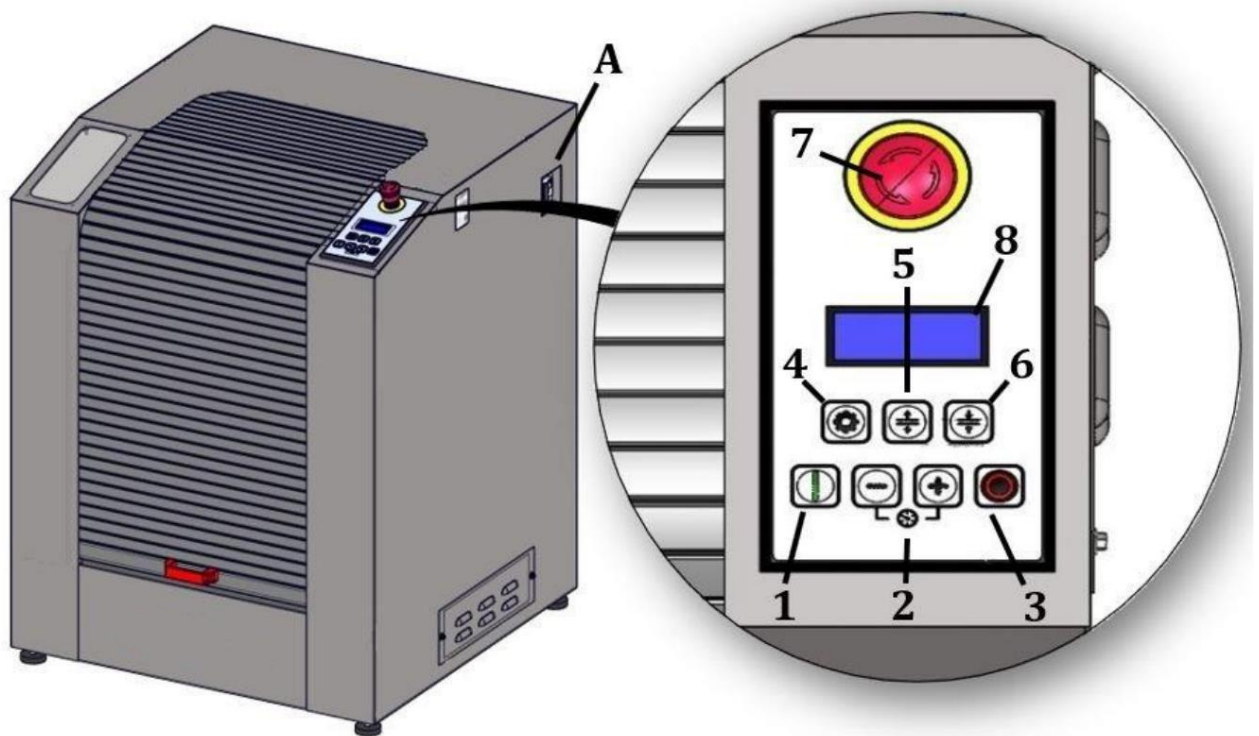

Figure 16: Control panel
As well as the I/O breaker to one side of the machine (A) and the red palm-operated pushbutton (7), the control panel also has all of the keys needed for the machine to operate (Figure 16).